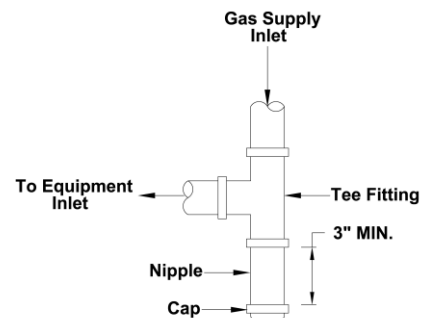

Figure 10: Typical Sediment Trap (required in all installations)
- 🔥 NFPA Code and Hearthstone require the use of a dedicated sediment trap just upstream of the unit. Damage to the valve or other components, due to the lack of a sediment trap (figure 10), are not covered by warranty.